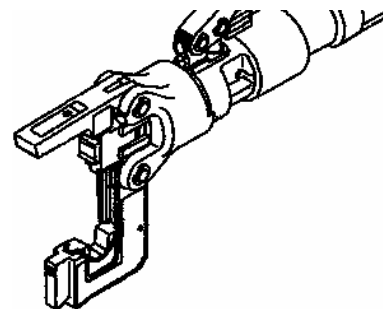

Figure 42. HD51 Open Head for Die Removal
- d. To remove the dies, open head and remove dies by sliding along slot (Figure 42).